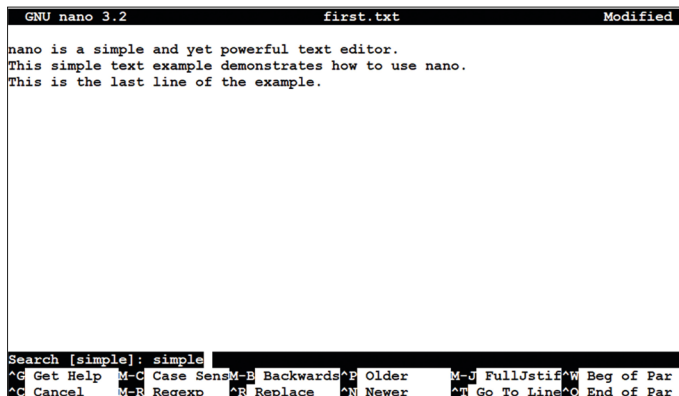

Figure 2.2 Searching for the word "simple".
Step 2: Look for word **simple** by pressing **Ctrl+W** and then typing **simple** in the window opened at the bottom left hand corner of the screen. Press the Enter key. The cursor will be positioned on the word **simple** (see Figure 2.2).